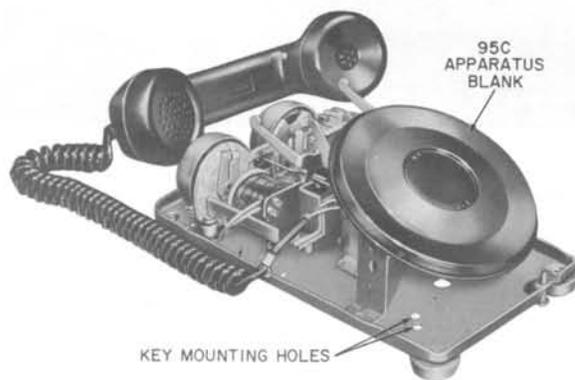

Fig. 12—95C Apparatus Blank Placed on Dial Brackets
- 95C—Fit on dial mounting bracket (Fig. 12) and replace housing.